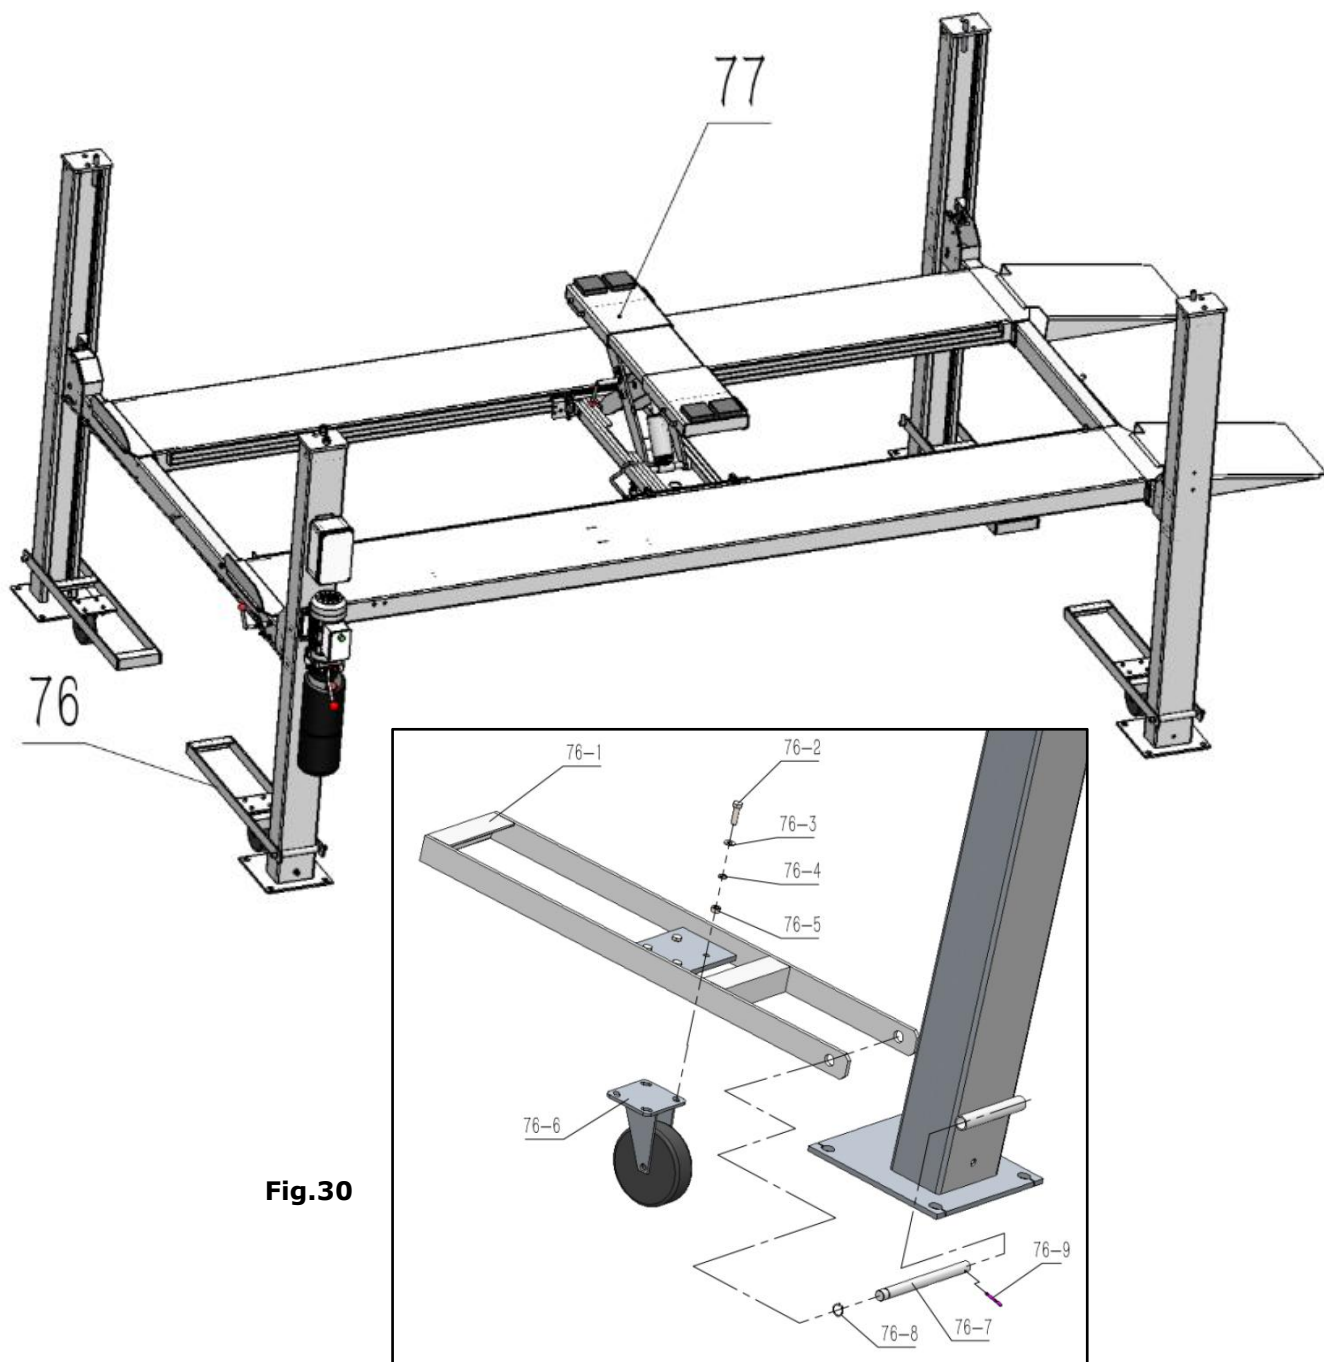

Fig.30
1. Install optional caster kits or jack(assembly body)-----optional (**See Fig. 30**)